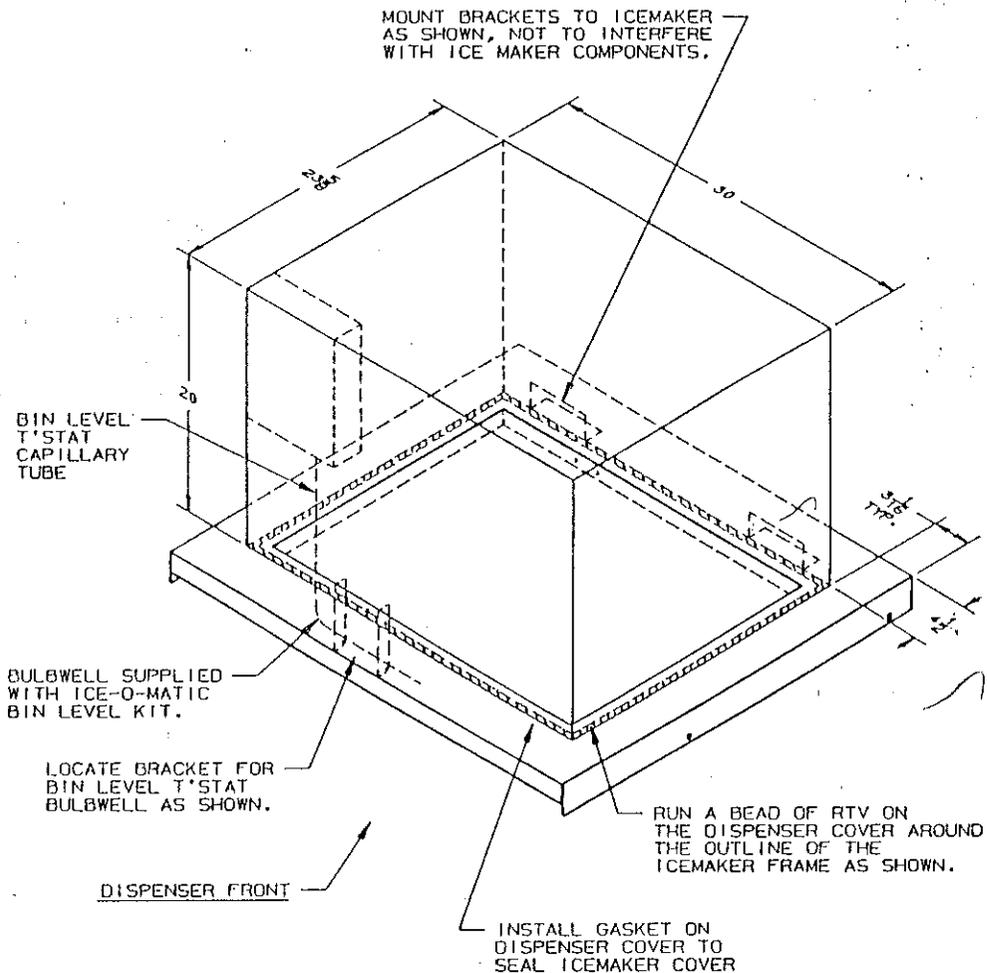

FIG. 1
Ice-O-Matic: Refer to Figure 1 and the following procedure for installing icemaker.
- a. Run a bead of RTV on the dispenser cover around the outline of the icemaker frame (icemaker front panel removed) as shown in Figure 1.